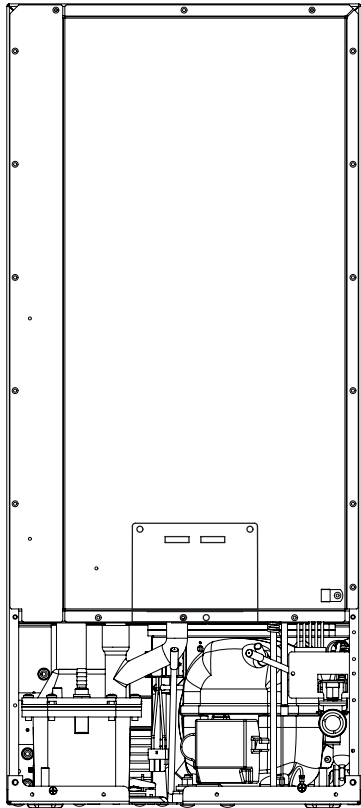

Figure 35
7. Disconnect the water valve's outlet water line to the reservoir and drain the remaining water left in the water line trap area. (See Figure 35 and 35a).
8. Reconnect the water valve outlet water line. (See Figure 35 and 35a).